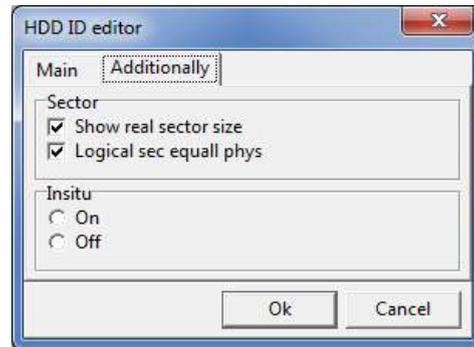

Fig. 5.15
- ◆ Editing of the sector parameters displayed in the HDD ID (Fig. 5.15). The operation only makes sense in HDD using Advanced format1. The option to «Show real sector size» allows you to enable in the HDD ID indication of actual physical sector size for the drives which use hidden physical sector size (F4\_3D, M8E). If the «Logical sec equall phys» option is selected, the logical sector size will be set to 4 Kbytes, otherwise it will be 512 bytes.